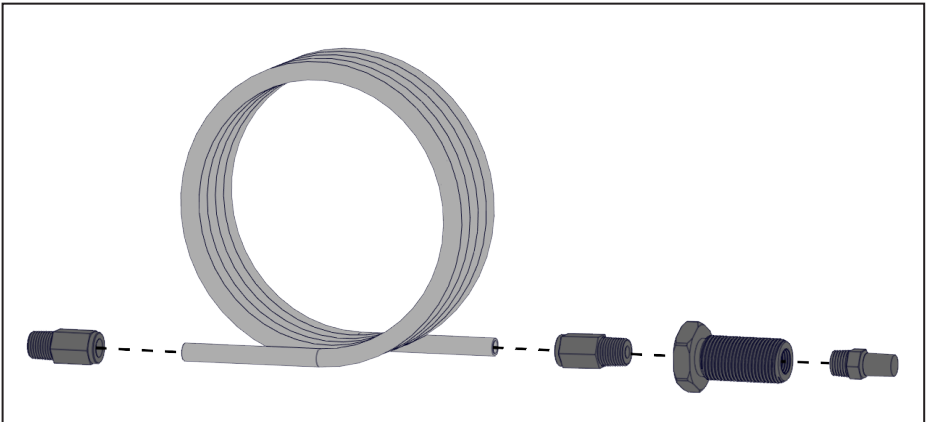

Figure 34 — Tubing Installation Remote Blowdown Muffler assembly
- Connect the 90° fitting on the 3/4 in x 22 in hose to the #12 JIC fitting (air/oil inlet) on the cooler above the fan (Figure 34).
- Connect the 90° fitting on the 3/8 in x 30 in hose to the #6 JIC fitting (oil return fitting) beneath the oil filter on the tank (Figure 34).
- Install the tube into the push-to-connect bulkhead fitting (Figure 34)